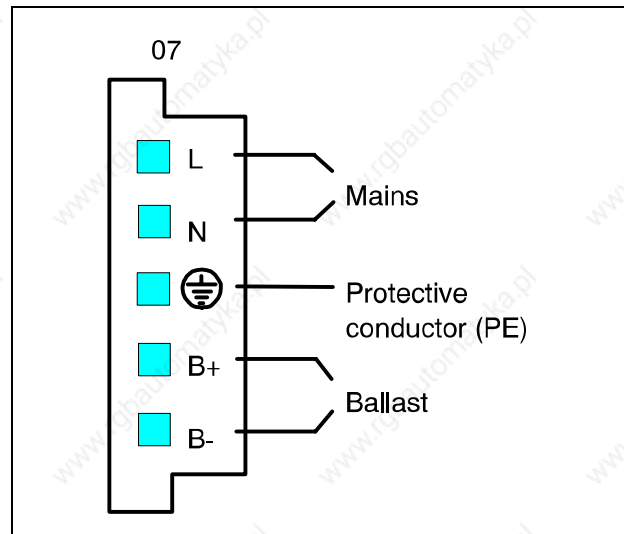

Figure 2-5 Mains and Ballast Connections
2. Insert the 5 wires into the mating plug terminal block and tighten screws (see figure 2-5).